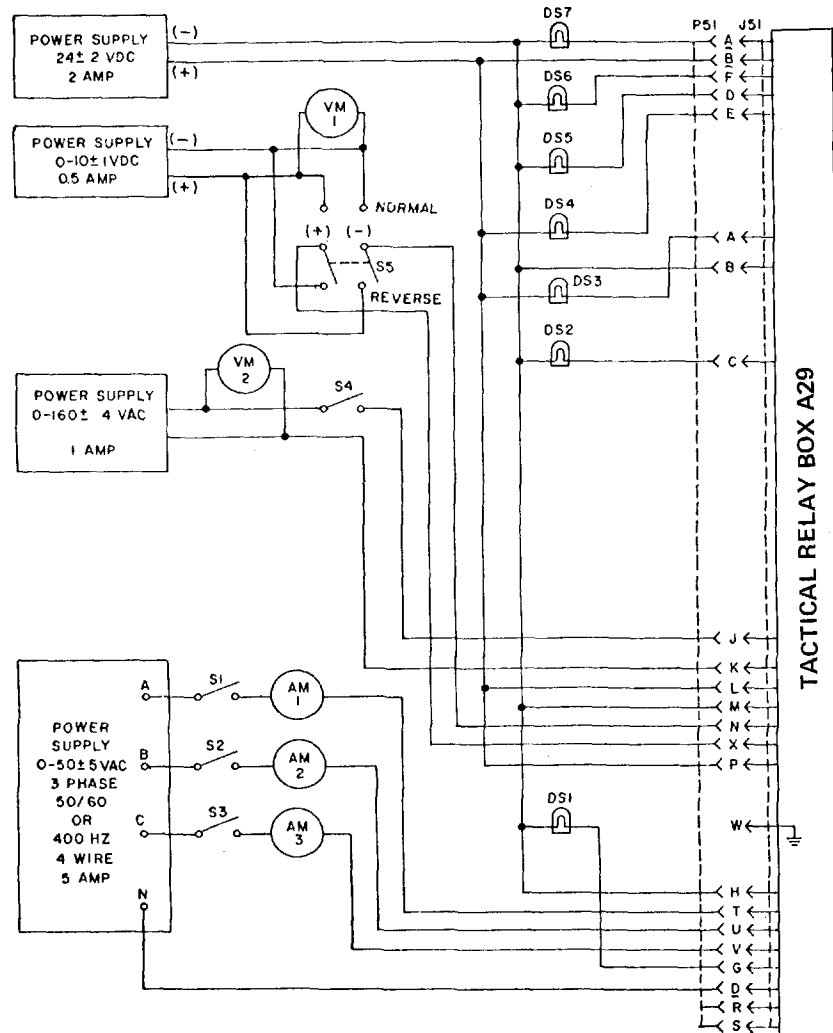

Figure 6-2. Tactical Relay Box A29, Test Setup
- (3) J51-d and J4-G
- (4) J51-V and J4-F
- (5) J51-U and J4-E
- (6) J51-T and J4-D
- (7) J51-X and J4-N
- (8) J51-N and J4-S
- (9) J51-J and J4-C
- (10) J51-K and J4-M
- (11) J51-K and J4-K
- (12) J51-K and J4-L.
b. Connect tactical relay box A29 to test setup shown in figure 6-2.